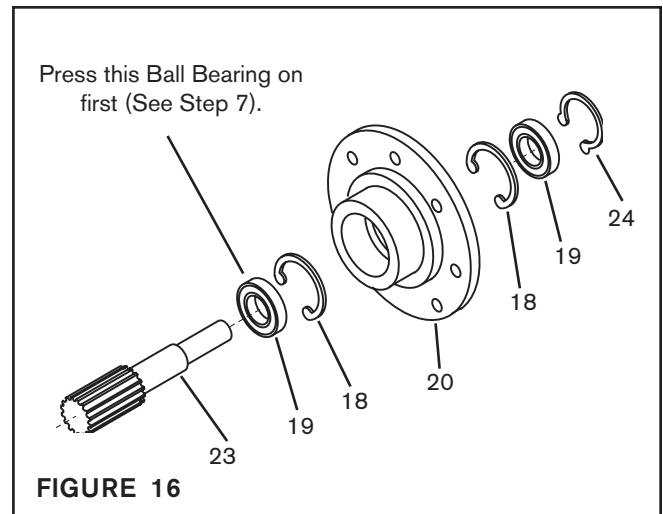

FIGURE 16
4. Remove the Retaining Ring (Item 24) and press the Stub Shaft (Item 23) out of the Male Pilot (Item 20) (See Figure 16).
NOTE: The two old Ball Bearings (Item 19) are removed from opposite ends of the Male Pilot (Item 20). Do not remove the Retaining Rings (Item 18) (See Figure 16).
5. Remove the two old Ball Bearings (Item 19) from the Male Pilot (Item 20). One Ball Bearing will stay with the Stub Shaft (Item 23) when pressed out (See Figure 16).
7. Press one new Ball Bearing (Item 19) onto the Stub Shaft (Item 23) (See Figure 16).
8. Apply an adequate amount of Loctite® 680 to evenly coat the outer race of the new Ball Bearing (Item 19) pressed onto the Stub Shaft (Item 23) and press the new Ball Bearing and Stub Shaft into the Male Pilot (Item 20) until the Ball Bearing is seated against the Retaining Ring (Item 18) (See Figure 16).
9. Apply an adequate amount of Loctite® 680 to evenly coat the outer race of the second new Ball Bearing (Item 19) and press it onto the Stub Shaft (Item 23) and into the Male Pilot (Item 20) until it is seated against the Retaining Ring (Item 18) (See Figure 16).
10. Reinstall the Retaining Ring (Item 24) (See Figure 16).